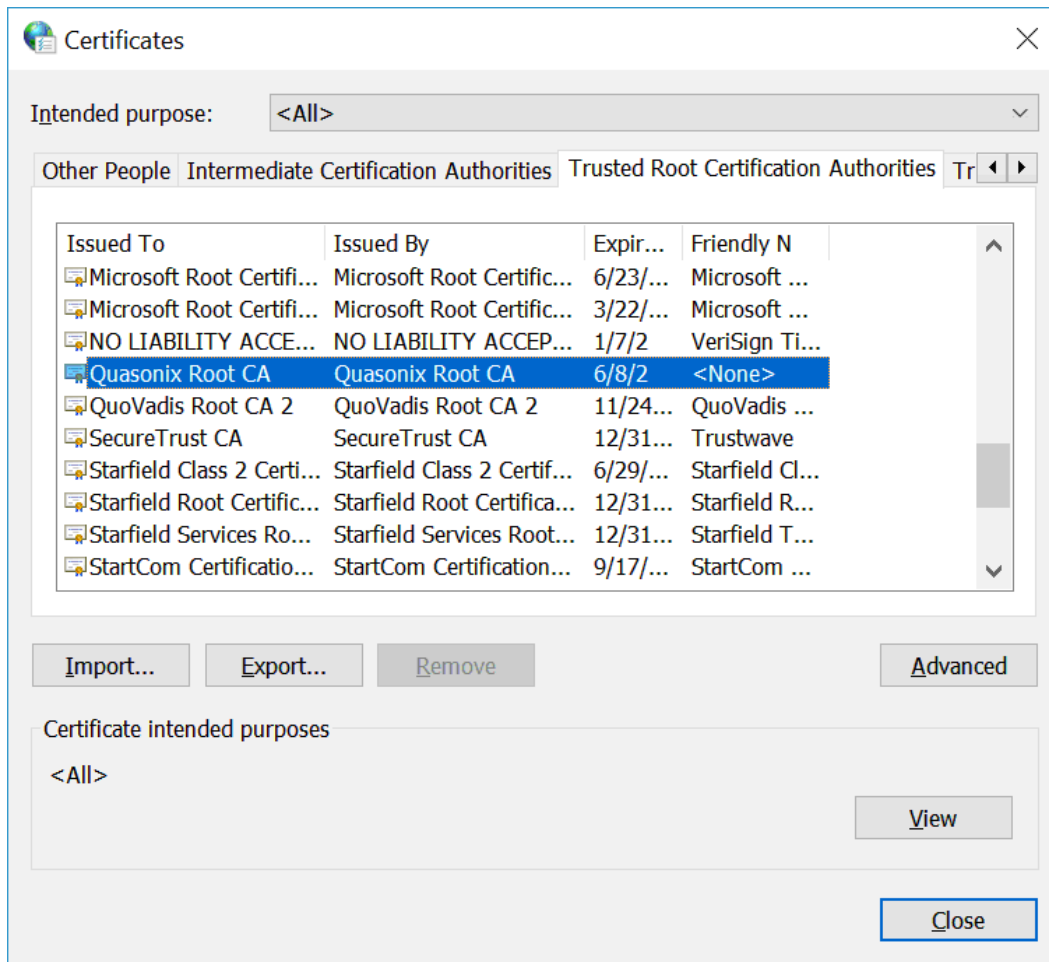

Figure 180: Certificates, Quasonix Certificate Imported
21. View the list of Certificates under Trusted Root Certification Authorities, and verify that Quasonix Root CA is listed, as shown in Figure 180.